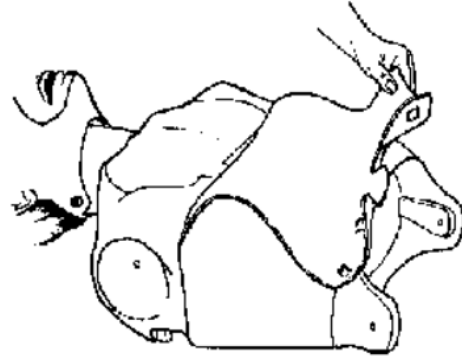

Fig. 1
1. Unfasten chest skin at shoulders and pull back to expose chest cavity. (Fig. 1)